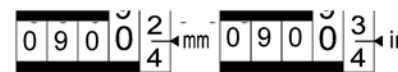
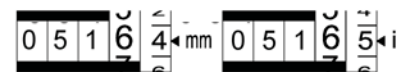

Fig. 4.7
Fig. 4.8
b) The reading in Fig. 4.7 is 0.9003" or 9.003mm and the reading is 0.5165" or 5.164mm in Fig. 4.8.